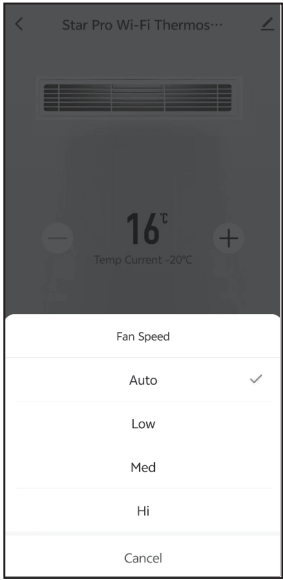

Figure9 Fan speed
- 4) Click “ Fan Speed ” to adjust the fan speed of the air conditioner, as shown in Figure 9.